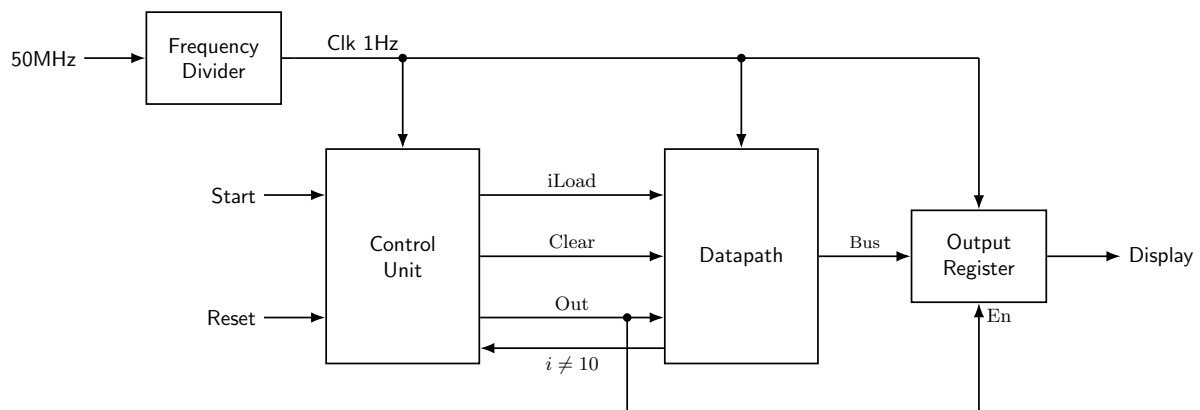

Figure 5: Dedicated microprocessor for counting 1 to 10.
The dedicated microprocessor consisting of a Control unit and a Datapath shown in Figure 5.
1. Write a VHDL file that defines component circuit (created in Part I and Part II), depicted in Figure 5. Modify the control unit to be able to operate with system internal clock (use a counter to transform 50 MHz to 1 Hz trigger or clock signal with period of 1 second). Compile the circuit. How many logic elements (LEs) are used to implement your circuit?